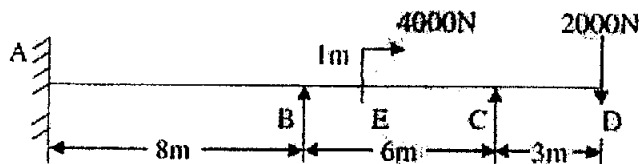

Fig.1
3. Find support reaction and moments by using strain energy method as shown in Fig.1 (10)